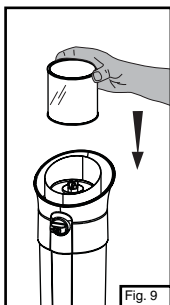

Fig. 9
- For models with a globe, place globe in the center of holding clips. (Fig. 9)